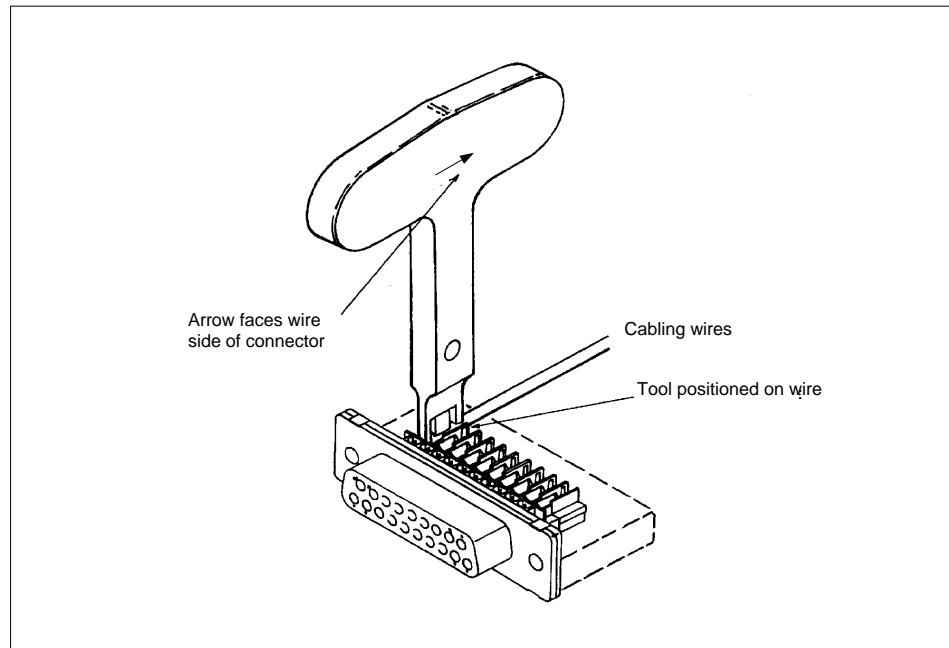

Figure 4-45. Cable Assembly with Cable Connector Tool
The EMRPB cable transfers control data between the STRM in the Main cabinet and the CONN in the Primary cabinet. See Table 4-11 on page 4-70 and Figure 4-45 on page 4-71 for cable connector assembly.
3. Place the tool on the wire as shown in Figure 4-45 on page 4-71. Make sure that the arrow on the tool handle points toward the wire termination side of the IDC connector.
Note: Route the EMRPB cable through the conduit and use the connector tool (see Figure 4-45 on page 4-71) to terminate to an IDC connector. The signal and pin connections for the IDC connector are shown in Table 4-11 on page 4-70.
Note: Route the EMRPB cable through the conduit and use the connector tool (see Figure 4-45 on page 4-71) to terminate to an IDC connector per Table 4-11 on page 4-70.